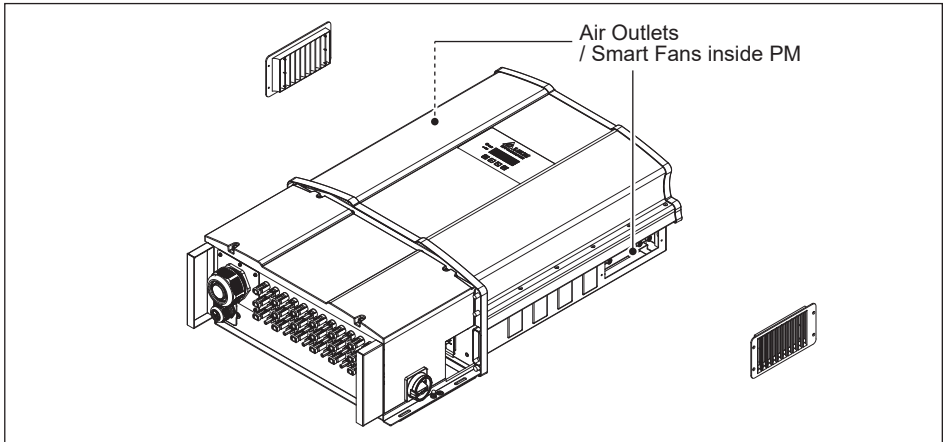

Figure 5-10 : Smart fans location on Power Module compartment
This section provides the instructions for smart fans replacement and filters cleaning for M88 series models. **Figure 5-10, 5-11, 5-12** illustrates the locations of smart fans.
M88 series models have smart fans that can be categorized into two parts: Wiring Box compartment (WB) and Power Module compartment (PM) as shown in the overview picture (**Figure 5-10**). The following procedure depicts the steps to clean the filters.